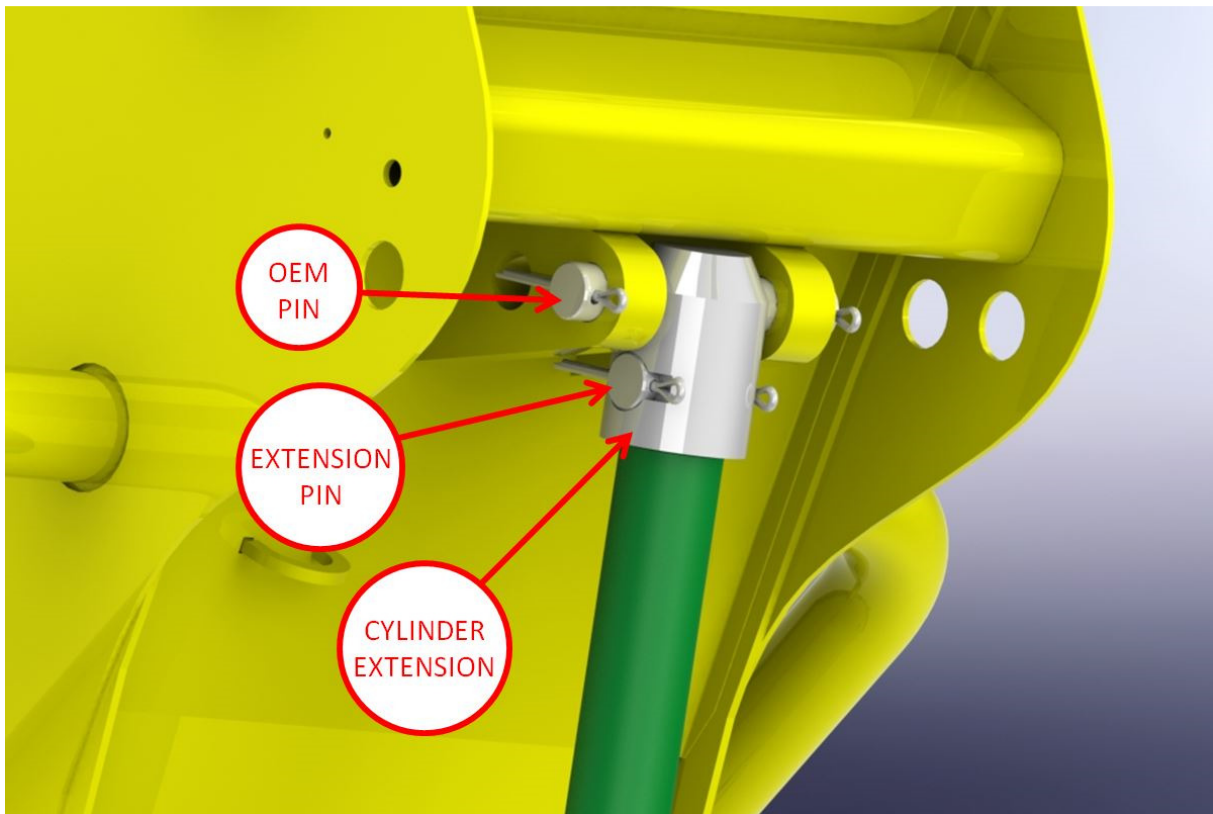

Figure 1: K250EXT Correctly Installed
- 4.) Adjust the hydraulic cylinder position until the top hole of the cylinder extension aligns with the spout mounting hole furthest from the cab of the cutter, as shown in Figure 1.